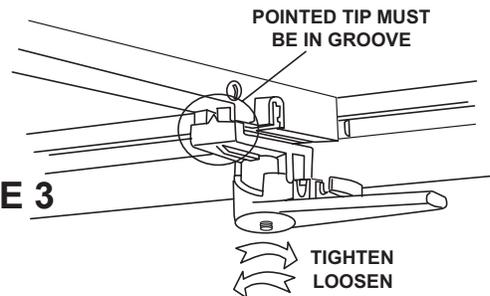

FIGURE 3
5. Secure the clamp to bed rail by pulling the handle toward the rear of the truck bed ensuring the locator is in the slot. See Figure 3. Verify the clamp is securely and properly engaged by lightly shaking handle assembly. The handle should not move.